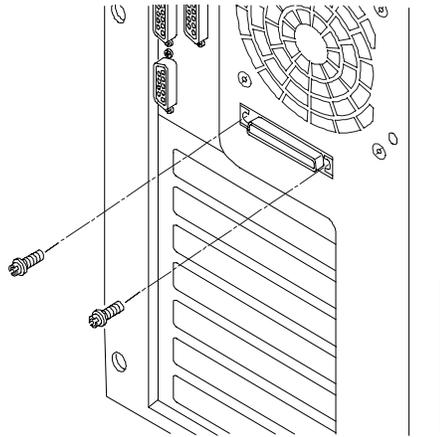

Figure 3-8. Connecting the Cable to the Rear of the NetServer
- Using a flat blade screwdriver, pop out the external SCSI knock-out at the connector location shown on the rear of the NetServer. See Figure 3-8.
- Install the external connector end of the cable into the knockout opening in rear of the chassis and insert the two threaded studs from the outside. See Figures 3-8 and 3-9.